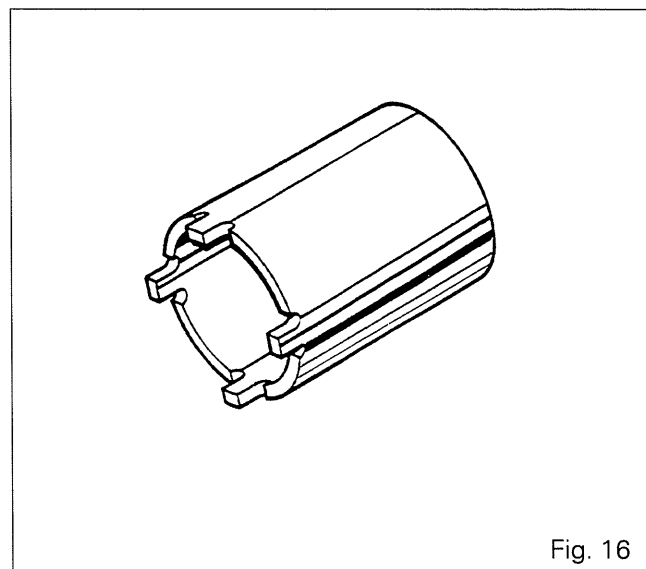

Fig. 16
**3378 028 M1 - Socket for ring gear carrier nut (Fig. 16)**